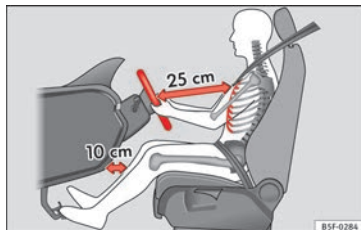
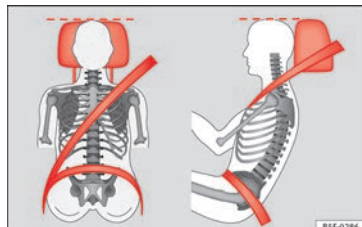

Fig. 64 The proper distance between driver and steering wheel.
Fig. 65 Correct belt web and head restraint positions
- Adjust the seat so that there is a distance of at least 25 cm between the steering wheel and your chest »» Fig. 64 and so that you can hold the steering wheel with both hands on the outside of the ring at the 9 o'clock and 3 o'clock positions with your arms slightly bent.
- Adjust the driver seat forwards or backwards so that you are able to press the accelerator, brake and clutch pedals to the floor with your knees slightly angled and the distance between your knees and the dash panel is at least 10 cm »» Fig. 64.
- Adjust the head restraint so that its upper edge is at the same level as the top of your head, or as close as possible to the same level as the top of your head and under no circumstances below eye level. Keep the back of your neck as close as possible to the head restraint »» Fig. 64 and »» Fig. 65.
Adjust the correct distance between the driver and the steering wheel »» Fig. 64 using the controls on the driver seat »»  page 12.